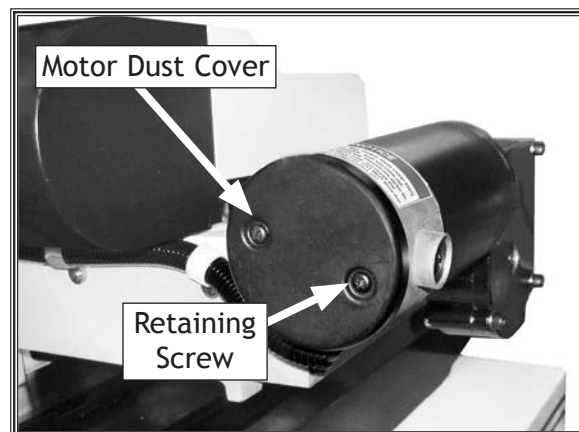

Figure 54. Feed motor end view.
2. Unscrew both dust cover retaining screws and remove the dust cover shown in Figure 54.